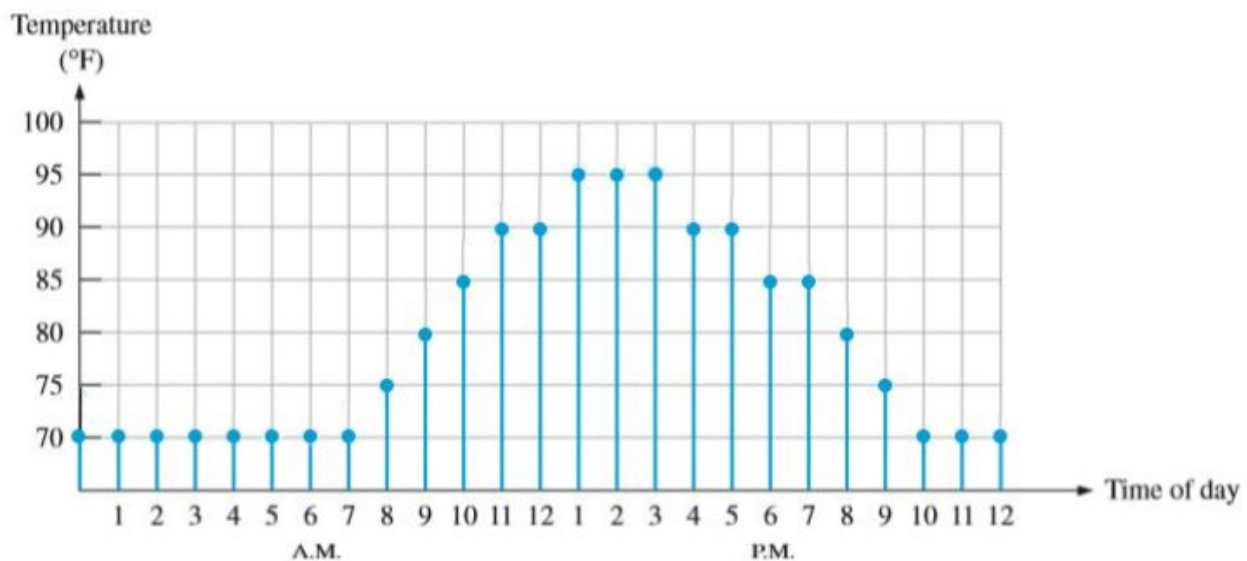

Figure 7.3: Digital Signal
specific times of the day, not continuously, say every hour. This new discrete-time signal is presented in Figure 7.3.
Remember that digital signals are the exact opposite of analogue signals; they are not represented using continuous values but rather discrete values. Unlike discrete-time signals, where only the time-axis is discretised, Digital Signals discretise both the x and y -axes. So, taking the temperature example in Figure 7.3, both the temperature axis and the time axis are discretised. That is, the hourly temperature readings would record only a specific set (domain) of temperature values. Temperatures outside this set would be rounded down to the nearest accepted value in the set of acceptable values. So, imagine if our temperature axis now accepts only the values 70°C , 75°C , 80°C , 85°C up to 100°C (an interval of 5°C) then our new temperature signal can be represented digitally as illustrated in Figure 7.3.
From Figure 7.3, it is clear that all recorded temperature values fall within the accepted range listed in Table 7.2 below. For example, the temperature at 6 AM, initially recorded as 70.55°C , has been rounded down to 70°C . Similarly, the temperature at 6 PM, initially recorded as 89.70°C , has been rounded down to 85°C . You might wonder why 89.70°C was rounded down rather than up, given its proximity to 90°C . The simplest explanation lies in the way digital systems operate.
The quantisation function in this case will be a simple round down or floor function/method which simply rounds the value down to the nearest accepted value. So, in Figure 7.3 where the temperature values were to be rounded down to the nearest whole number divisible by five (5), the quantisation function will do exactly so. This can be further expressed as: